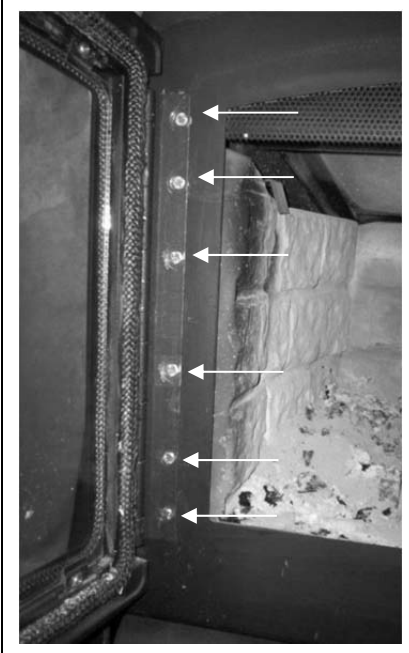

Figure 8 Hinge Adjustment on the Fireplace
5. If necessary, slightly loosen the screws holding the hinge to the fireplace facing (see Figure 8). Move the door with the hinge as desired. Retighten all the hinge screws on the fireplace.